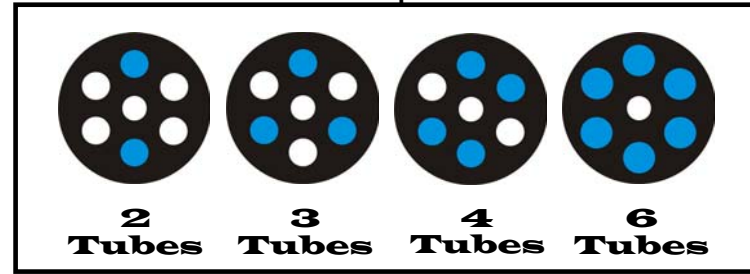

Figure 2
4. Turn the power on. The switch is located on the side of the centrifuge. Put the tubes into the rotor as shown in figures 2 and 3.
CAUTION! Improper placement of tubes in rotor (non-symmetrical) may cause unit to become unstable. (See figures 2 through 5)